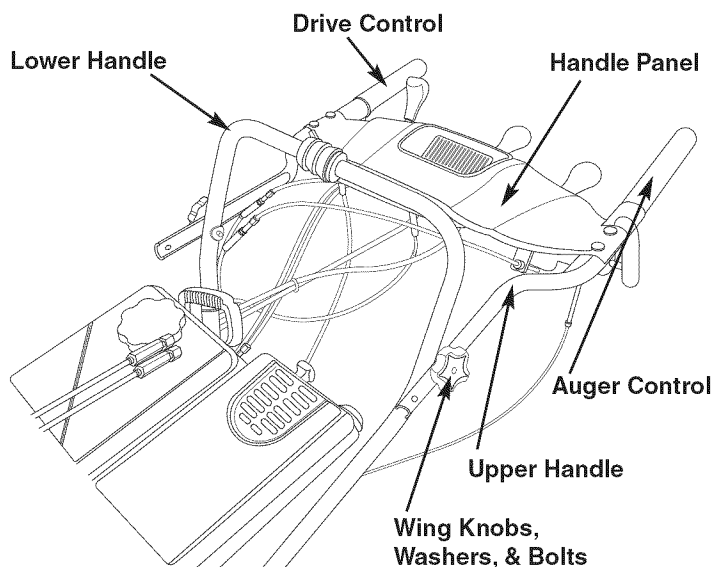

Figure 1-1
2. Remove the wing knobs, washers and bolts from the lower handle. (see Fig. 1-1)